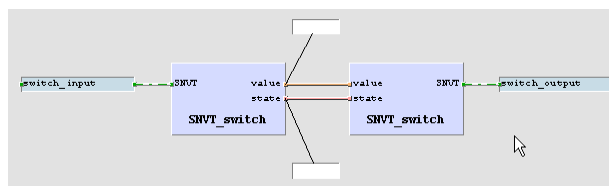

Figure 9: Online Test fields
13. Place the fields above and below the drawing as shown in Figure 9, then press the **Save** button to save your changes.